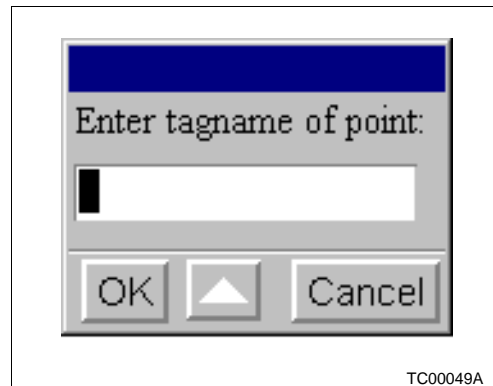

Figure 4-27. Enter Tagname Pop-Up Window
5. From the keyboard, press **F4**. The *Enter Tagname* pop-up window will appear (Figure 4-27). Enter the tagname as described in item four above.